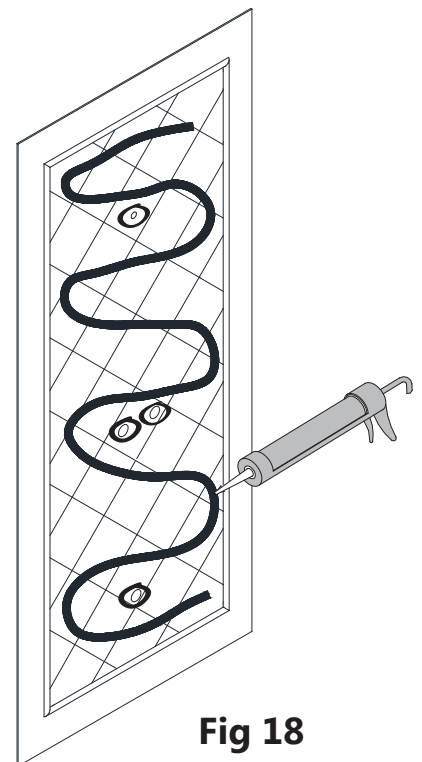

Fig 18
18. Apply adhesive to the entire back surface of the **Side Panel (#01)** and around the drilled fixture holes. (**Fig 18**)